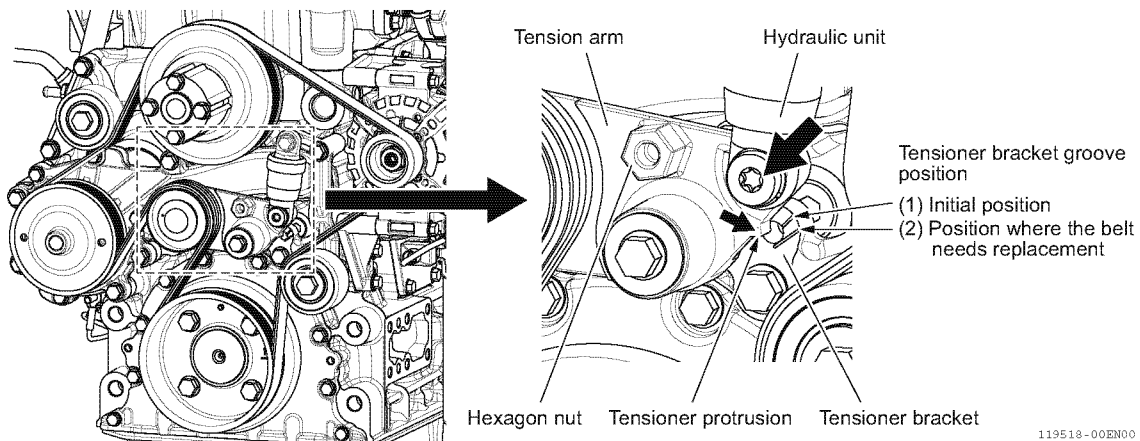
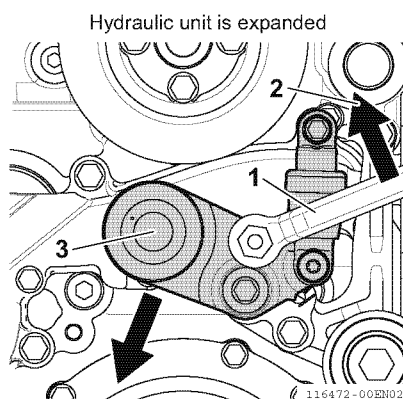
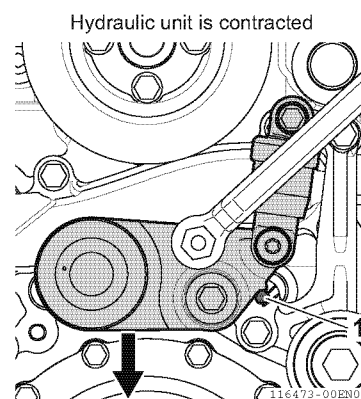

Fig. 00-50
Fig. 00-51
Fig. 00-52
Fig.00-50 (left) shows the layout of the cooling fan V-belt and the auto tensioner while Fig.00-50 (right) shows the detailed view of the tensioner. When operating the engine for the first time, and while the belt is stationary, the protrusion of the tensioner arm is positioned in the tensioner bracket groove (1). Once the belt becomes elongated as the engine is operated, the piston (indicated by the large arrow) of the hydraulic unit is expanded, and the protrusion moves to the groove (2) indicated by the small arrow. When the protrusion reaches the groove (2), then it is time to replace the belt.
Operate the hydraulic unit to loosen the belt tension to remove/install the belt. Turn the hexagon nut (Fig.00-50) of the tensioner arm counterclockwise (2, Fig.00-51) by using a tool such as a ratchet wrench or the like (1, Fig.00-51), and move the tensioner arm downward until the hole for inserting a fixing tool (1, Fig.00-52) at the back of the tensioner arm (3, Fig.00-51) can be seen. Insert a cross slot screw driver into the hole, and fix the tensioner arm in place. With the arm fixed in place, remove/install the belt. Since the hydraulic unit may break if the hydraulic pressure rises suddenly, take three seconds or more to move the arm slowly from (Fig.00-51) to (Fig.00-52) when removing/installing the belt.